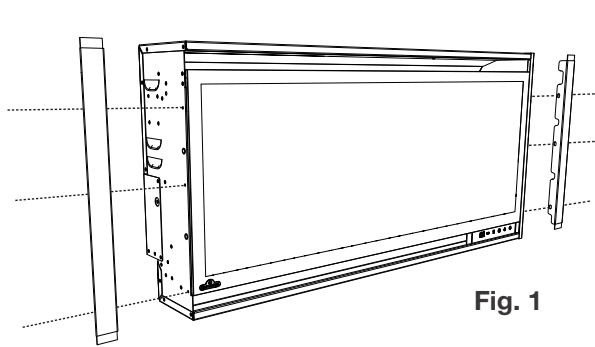

Fig. 1
1. Install left and right trims and secure with fasteners as shown (Figure 1).